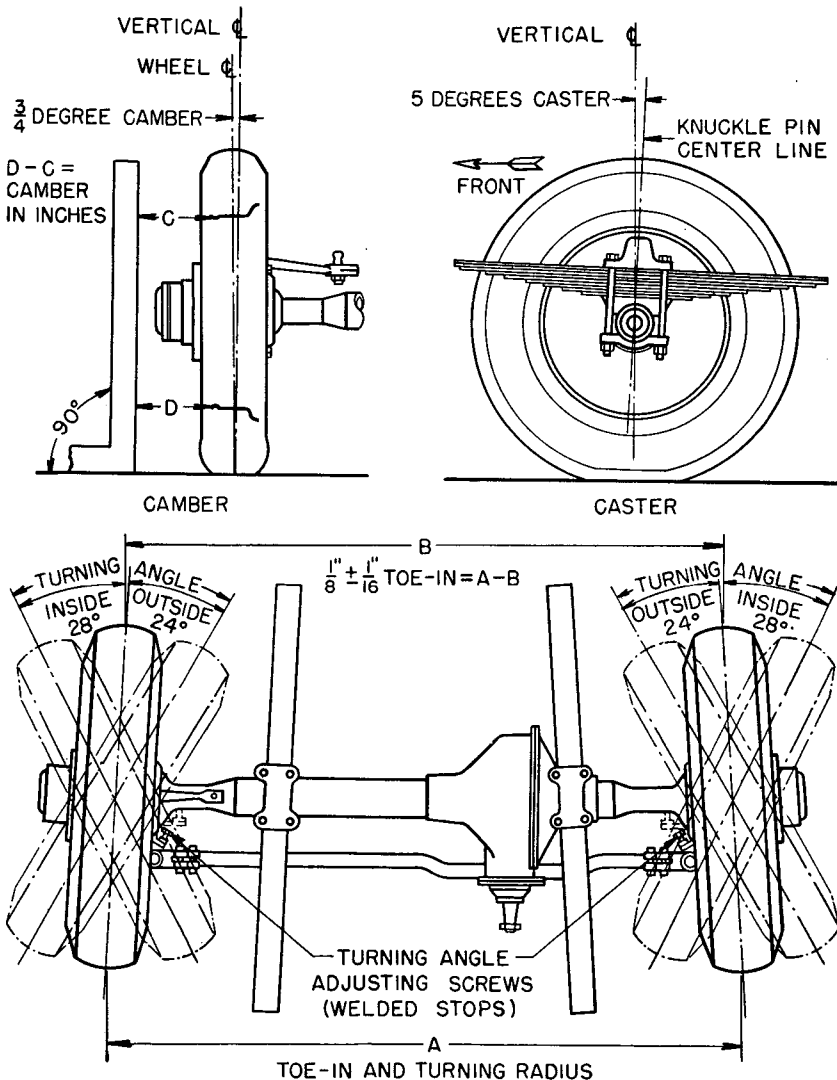

FIGURE 36.—Wheel alinement chart.
i. Steering tie rod.—(1) After disassembly, all parts should be washed thoroughly in a grease solvent. Inspect the stud ball and socket joint for scratches, pits, or wearing. Replace any worn or damaged parts.
(2) Replace any soft or weakened springs.
j. Wheel alinement (fig. 36).—(1) *Camber*.—This is the amount that the wheels incline at the top from a vertical position. Positive camber is outward inclination of wheels at top; zero camber means no inclination and wheels are held in a vertical plane; and negative or reverse camber is an inward inclination of the wheels at the top.